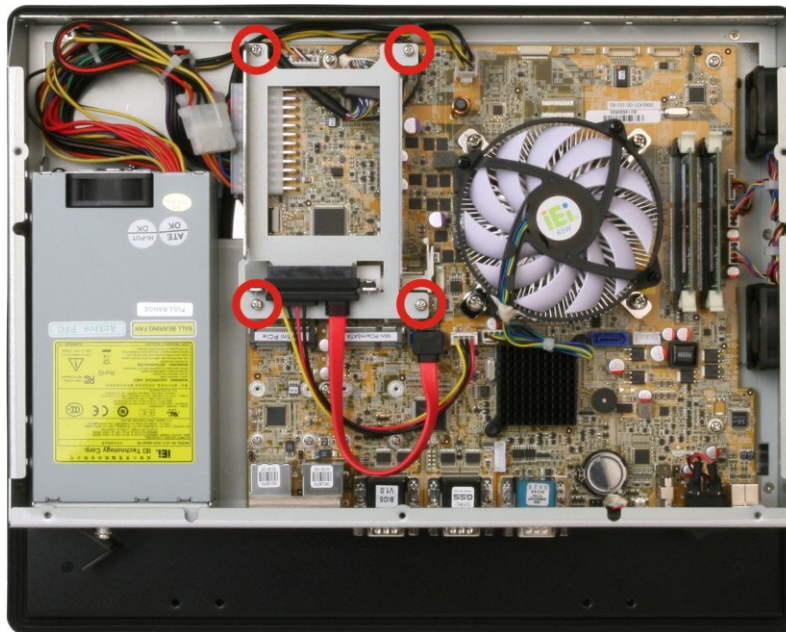

Figure 3-2: PPC-F15A/F17A-H81 HDD Bracket Retention Screws
Step 2: Remove the HDD bracket from the PPC-F15A/F17A-H81. The HDD bracket is secured on the panel PC with four retention screws (Figure 3-2). Remove the four retention screws and lift the bracket off the panel PC.